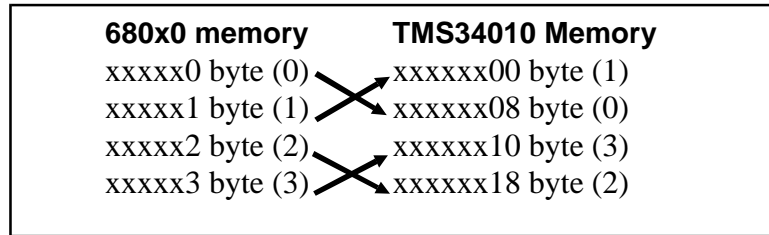

Figure B.3 32 Bit Data Transfers
Data may only be transferred to or from Rastergraf TMS34010 based graphics boards 16 bits at a time, and only with one of the two byte sets; byte(0), byte(1) or byte(2), byte(3). Figure B.3 shows how a long (32 bits) would be transferred from 680x0 memory to long aligned TMS34010 memory (the start address in TMS34010 memory could be any bit value, but AFGIS firmware requires that the AFGIS opcodes be loaded on word boundaries).